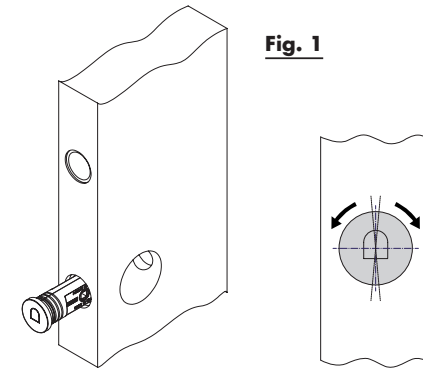

Fig. 1
2. Enter the lock in the seat, taking care to orient aligned with the door (Fig.1).